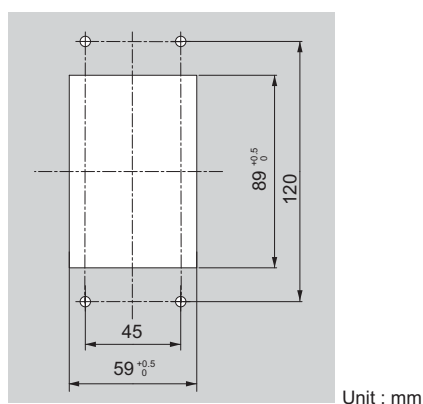

Figure 2.10 Panel Cut-Out Dimensions (Internal/Flush-Mount Installation)
1. Cut an opening in the enclosure panel for the digital operator as shown in **Figure 2.10**.